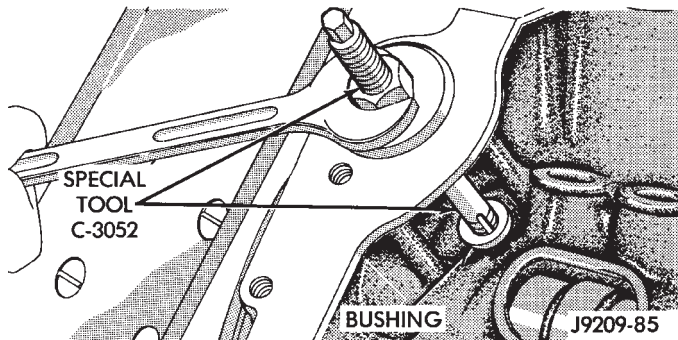

Fig. 38 Distributor Driveshaft Bushing Removal
(1) Remove distributor, refer to Group 8D, Ignition Systems for the proper procedure.
(2) Remove the intake manifold (refer to Group 11, Exhaust System and Intake Manifold).
(3) Insert Distributor Drive Shaft Bushing Puller Tool C-3052 into old bushing and thread down until a tight fit is obtained (Fig. 38).
(4) Hold puller screw and tighten puller nut until bushing is removed.